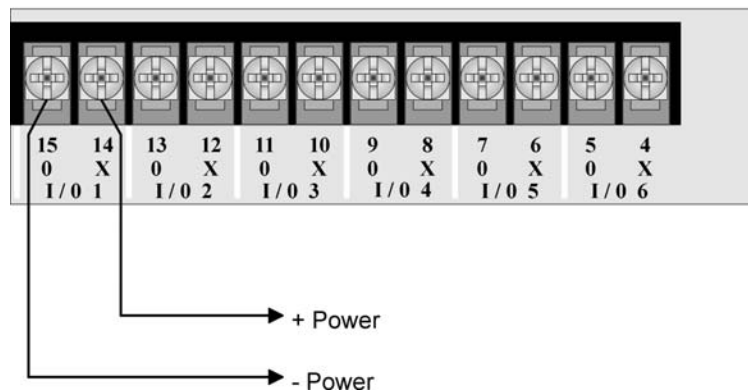

Figure 3-16 Flexput Circuits Used as Auxiliary Power
1. Wire the Flexput circuit(s) that will be used for auxiliary power. See Figure 3-16 for location of Flexput circuits.